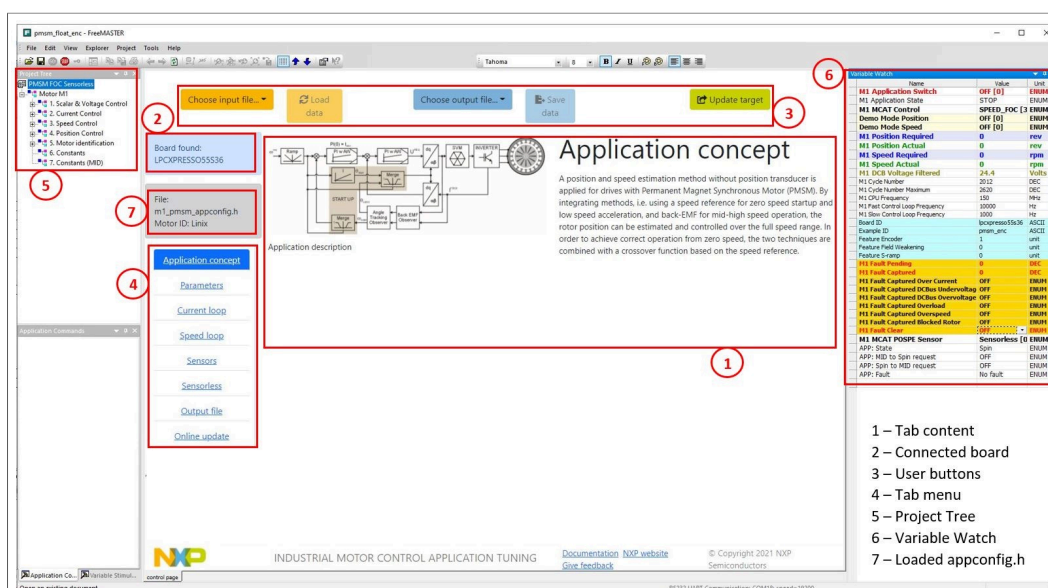

Figure 14. FreeMASTER + MCAT layout
The PMSM sensor/sensorless FOC application can be easily controlled and tuned using the Motor Control Application Tuning (MCAT) plug-in for PMSM. The MCAT for PMSM is a user-friendly page, which runs within the FreeMASTER. The tool consists of the tab menu and workspace as shown in Figure 14. Each tab from the tab menu (4) represents one submodule which enables tuning or controlling different application aspects. Besides the MCAT page for PMSM, several scopes, recorders, and variables in the project tree (5) are predefined in the FreeMASTER project file to further the motor parameter tuning and debugging simplify.